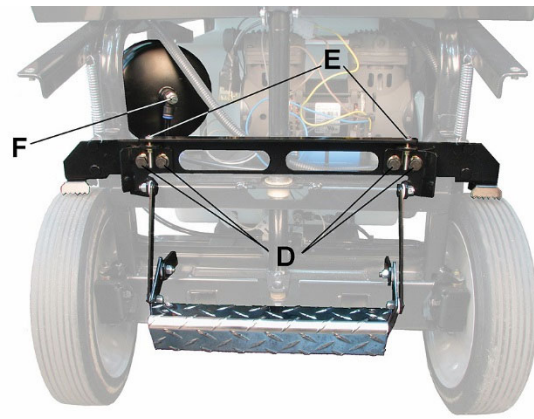

Figure 7-2
2. Loosen (do not remove) four hex cap screws (D, Figure 7-2).
3. Turn pan head screws (E) equally.
4. Retighten hex cap screws (D).
The pressure *output* valve at the front of the air tank controls the gradual mist when the unit is turned off. It has been set by the manufacturer but can be adjusted by the user if needed. Loosen knurled nut and turn knob (F, Figure 7-2) to change setting. Tighten knurled nut to secure setting.